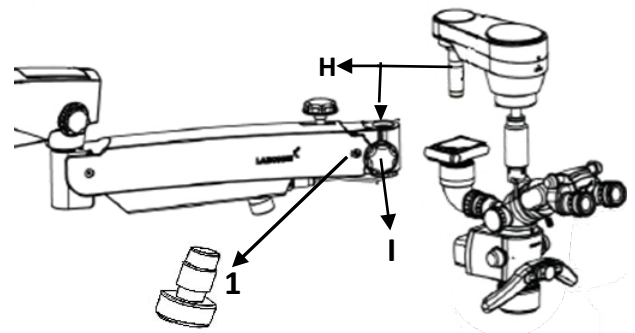

Fig. 31
8. Open another box and take out the ABA carrier assembly. Refer Fig. 31
- a. Insert the Auto Balancing Arm (ABA) shaft (H) into the suspension arm.
- b. Lock the auto Balancing Arm (ABA) with the threaded Knob (I).
- c. Make sure the safety screw (1) is installed and tightened.